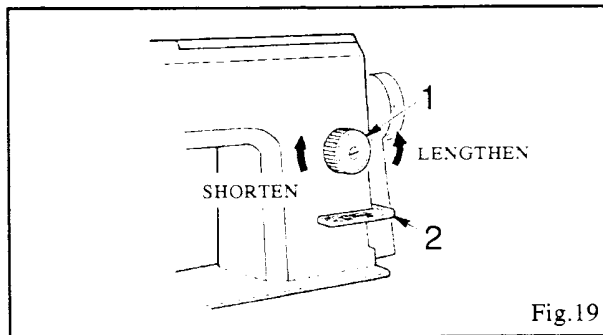

Fig.19
To regulate the length of stitch, turn feed regulating dial (1) to left or right, as shown in Fig. 19.